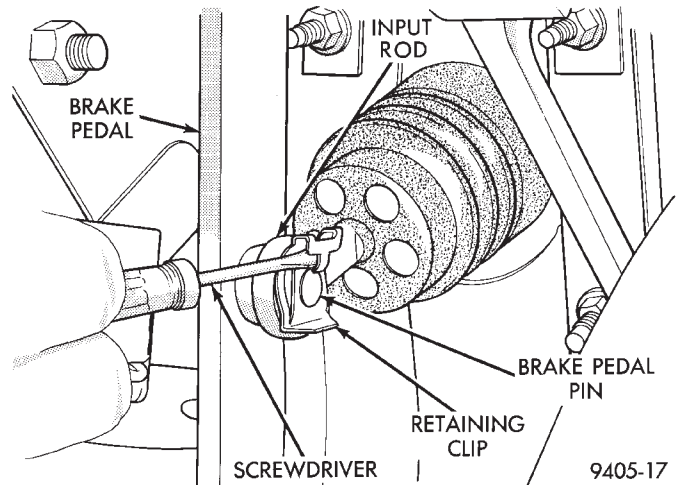

Fig. 113 Input Rod Retaining Pin
(16) Remove the vacuum hoses from the check valve located on the power brake vacuum booster.
(17) Locate the power brake vacuum booster input rod to brake pedal attachment under instrument panel. Position a small screwdriver between the center tang on the power brake booster input rod to brake pedal pin retaining clip (Fig. 113). Rotate screwdriver enough to allow retaining clip center tang to pass over end of brake pedal pin. Then pull retaining clip off brake pedal pin. **Discard retaining clip. Replace only with a new retaining clip when assembled.**